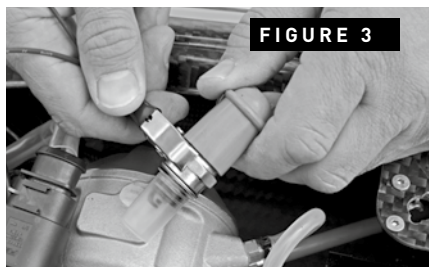

FIGURE 3
- 5) Attach the big crocodile clip on the metal part of the spark plug - FIGURE 3.